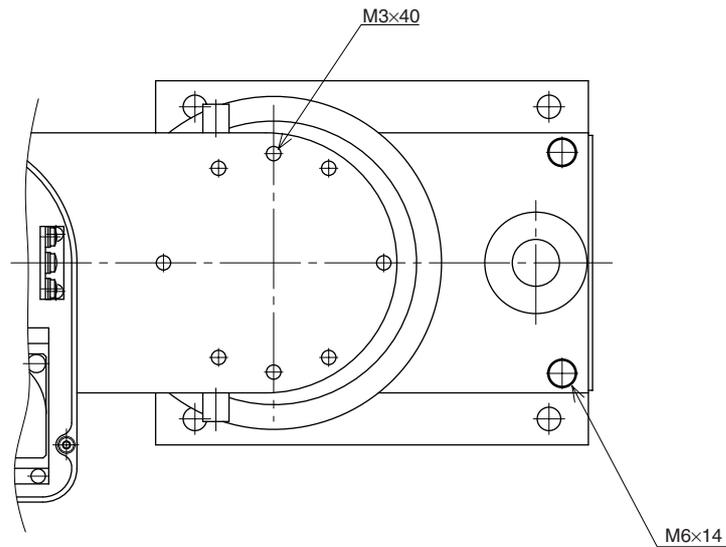
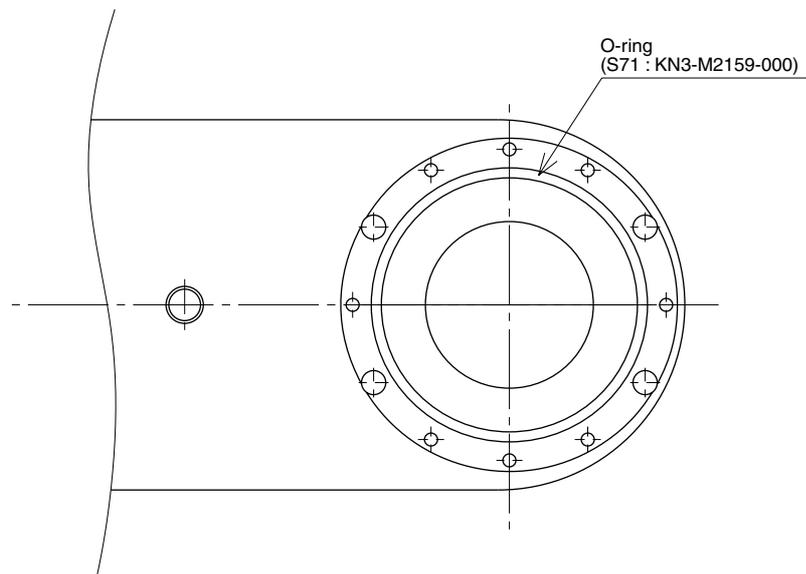
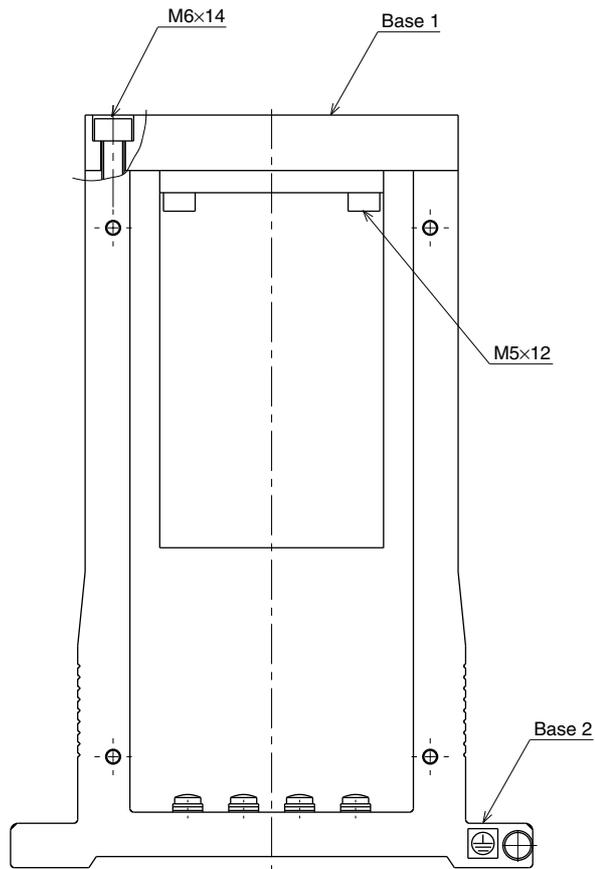

Fig. 5-1
Fig. 5-2
Fig. 5-3
- 6) Remove the X-axis arm installation bolts (M3×40L, 8 pieces). (See Fig. 5-1.)
An O-ring is fitted to the X-axis arm, so be careful not to let it drop into the peripheral unit. (See Fig. 5-2.)
- 8) Remove the base assembly bolts (M6×14L, 6 pieces) to separate base 1 and base 2. (See Fig. 5-1 and Fig. 5-3.)
- 17) Fasten base 1 to base 2 with the bolts (M6×14L, 6 pieces) you removed earlier. (See Fig. 5-3.)
- 19) Fit a new O-ring into the O-ring groove on the X-axis arm and place the arm on the harmonic drive. Then, apply small amounts of "Screw Lock" to the bolts (M3×40L, 8 pieces) you removed earlier and tighten them uniformly to secure the X-axis arm to the base. (See Fig. 5-1 and Fig. 5-2.)